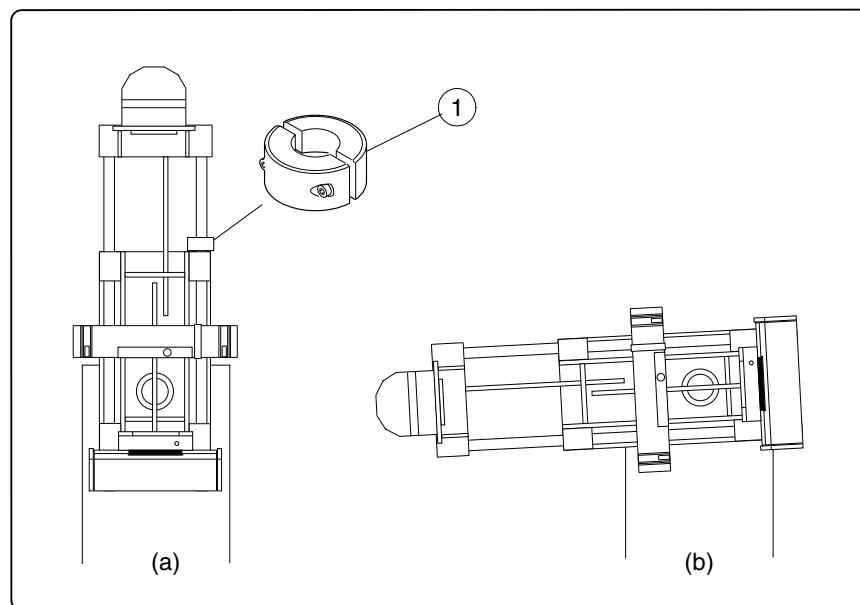

Figure H.39
- When the C-arm is at the upright position, you need always a locking device. Attach the locking device to the bearing shaft (Fig. H.39, 1). It prevents the tubehead to fall down when opening the MAG-mechanism thread. (Fig. H.39, a)
- If you don't have the locking device, turn on the power for a while and drive the C-arm little more than 90 degrees (slightly past horizontal) so that the cassette table is slightly higher than the tubehead. Turn off the power and unplug the unit. (Fig. H.39, b)